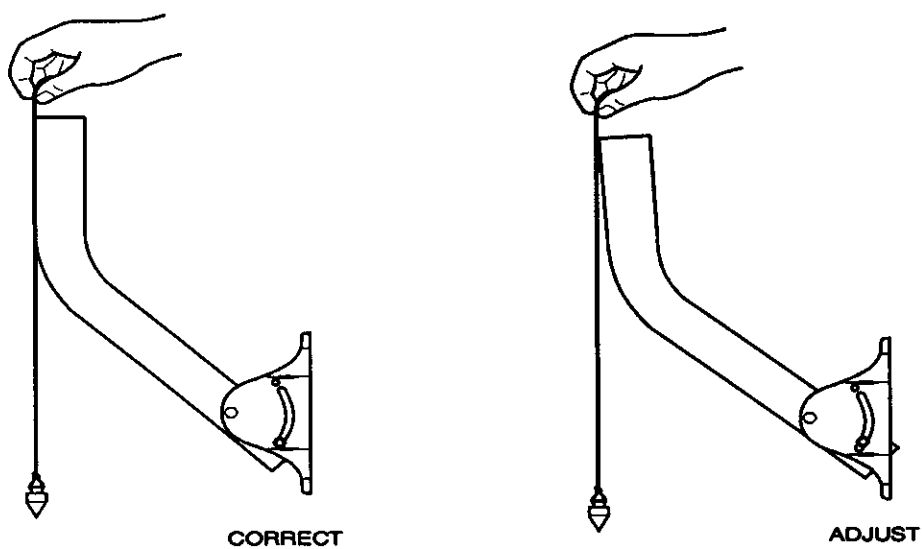

Figure 25, Vertical Leveling with Plumb Line
2. Hold the string of the plumb line over the top of the mast so it hangs as shown in figure 25.